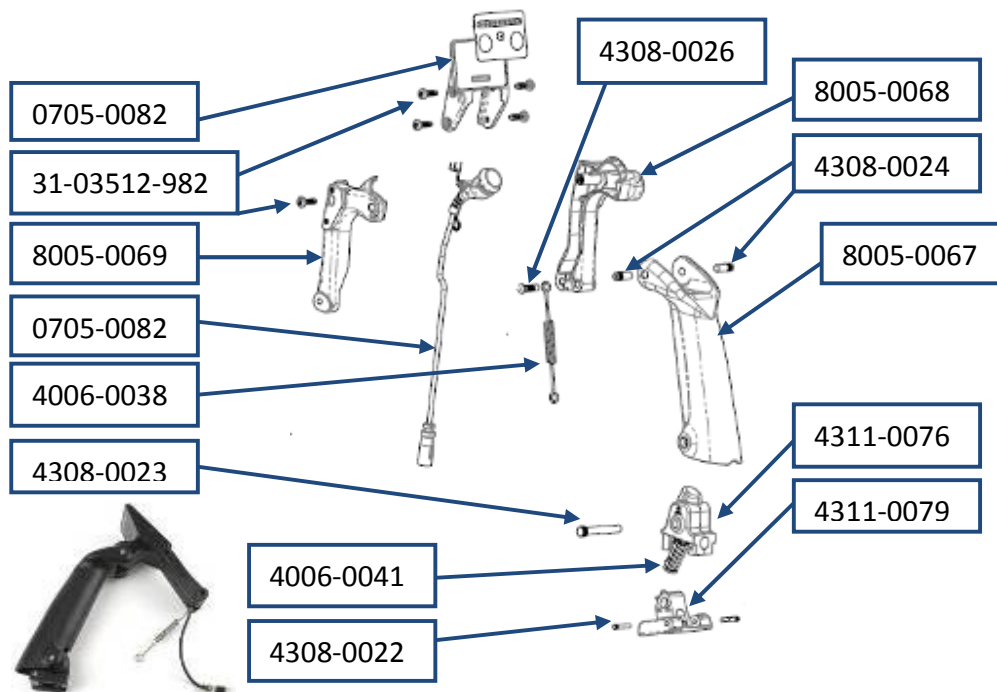

Figure 77: Handle Parts
a. The handle assembly is a line replaceable unit and Figure 77 illustrates the major parts of the handle.